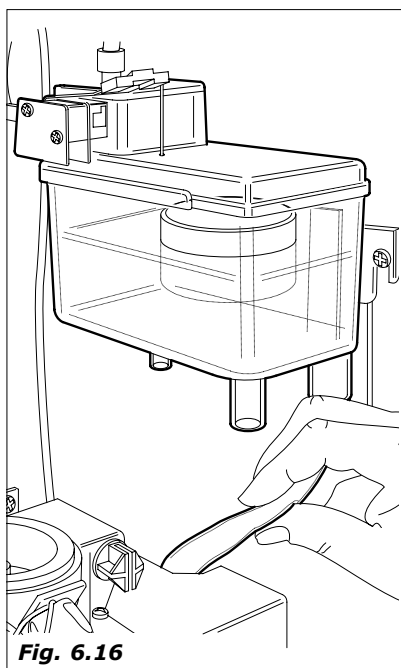

Fig. 6.16
- at the same time the instant boiler will be filled (if installed). We suggest to sometimes compress the tube that connects the boiler to the water reservoir so as to eliminate eventual air bubbles that could be created, (Fig.6.16).